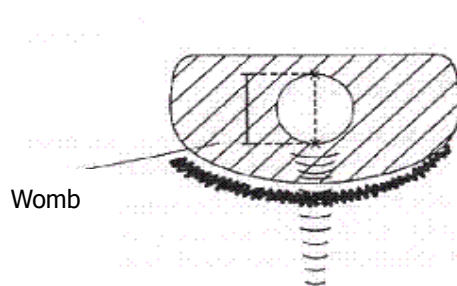

Figure 6-11. Horse's gestation age measurement sketch
- ⑤. The measuring method of GS diameter is given in the following figure (Figure 6-11). It can go in horizontal direction or vertical direction with no difference.